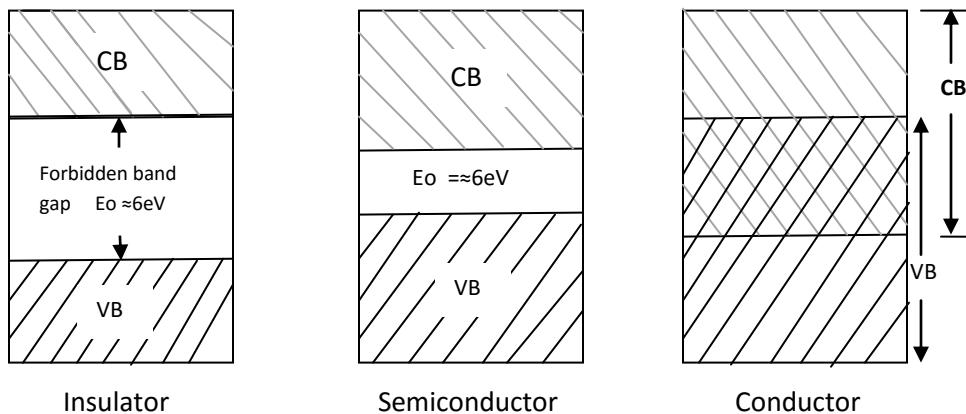

FIG:1.1 Energy band diagrams insulator, semiconductor and conductor
**Insulator:** An insulator is a material that offers a very low level (or negligible) of conductivity when voltage is applied. Eg: Paper, Mica, glass, quartz. Typical resistivity level of an insulator is of the order of  $10^{10}$  to  $10^{12} \Omega\text{-cm}$ . The energy band structure of an insulator is shown in the fig.1.1. Band structure of a material defines the band of energy levels that an electron can occupy. Valence band is the range of electron energy where the electron remain bended too the atom and do not contribute to the electric current. Conduction bend is the range of electron energies higher than valance band where electrons are free to accelerate under the influence of external voltage source resulting in the flow of charge.
For an insulator, as shown in the fig.1.1 there is a large forbidden band gap of greater than 5eV. Because of this large gap there a very few electrons in the CB and hence the conductivity of insulator is poor. Even an increase in temperature or applied electric field is insufficient to transfer electrons from VB to CB.
**Conductors:** A conductor is a material which supports a generous flow of charge when a voltage is applied across its terminals. i.e. it has very high conductivity. Eg: Copper, Aluminum, Silver, Gold. The resistivity of a conductor is in the order of  $10^{-4}$  and  $10^{-6}$   $\Omega\text{-cm}$ . The Valance and conduction bands overlap (fig1.1) and there is no energy gap for the electrons to move from valance band to conduction band. This implies that there are free electrons in CB even at absolute zero temperature (0K). Therefore at room temperature when electric field is applied large current flows through the conductor.